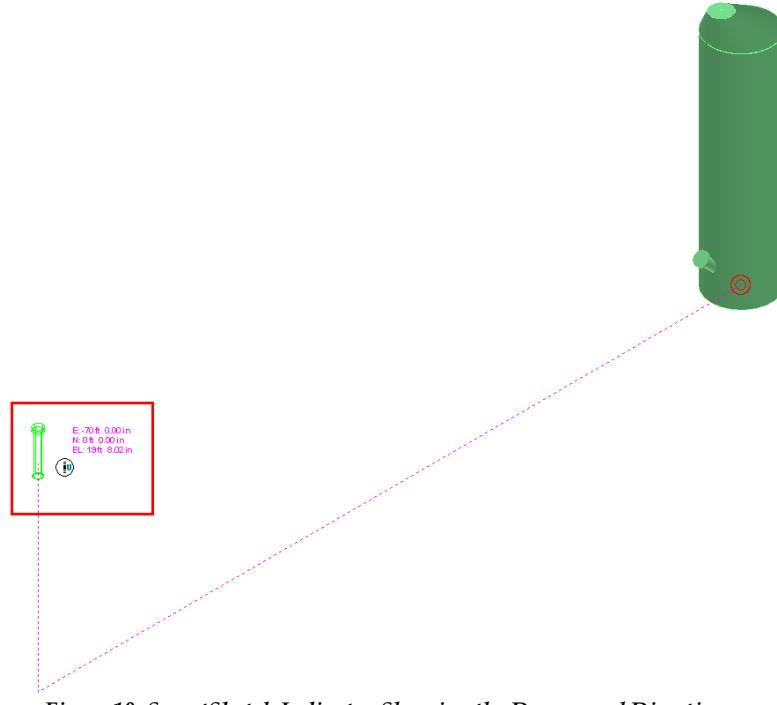

Figure 10: SmartSketch Indicator Showing the Downward Direction
- Select the **Lock Slope** option on the **Route Pipe** ribbon to unlock the slope constraint and position the cursor point down from the starting point. SmartSketch will display a **U** glyph. This glyph indicates that you are going down the Z-axis, as shown in Figure 10.